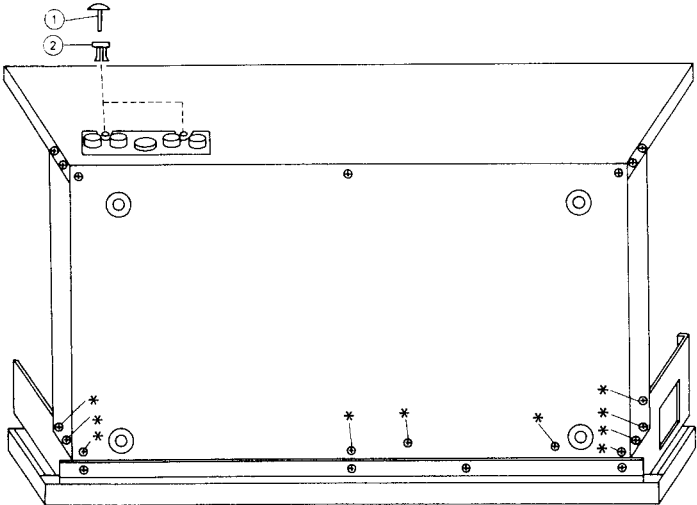

Fig. 2
- 1. To expose the copper side of Play/Record P.C.Board. (Refer Cabinet Exploded View, Page 8) (Refer Fig. 2)
- 4. Remove all screws marked with * in Fig. 2.